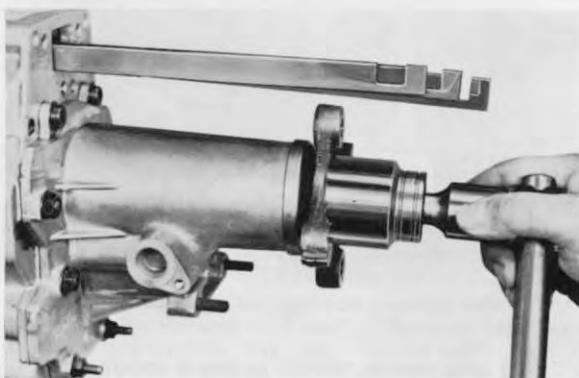

Fig. 7
1. Push back the safety tab on the nut (430) and loosen nut (Fig. 7). For this, 2 gears must be engaged. Pull the output flange (429) from the mainshaft.